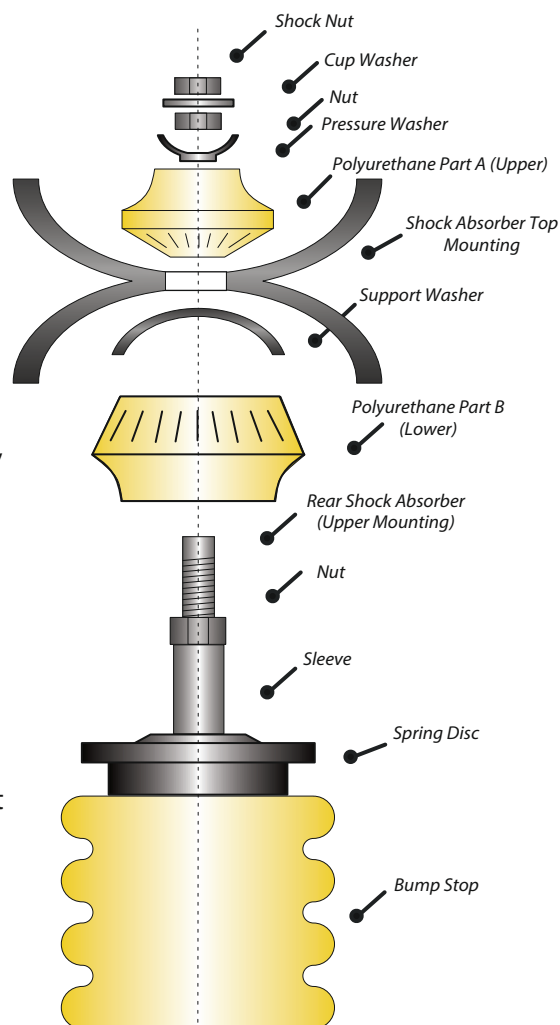

Figure 1
7. Fit the Lower Polyurethane Bush B and original washer onto the strut with the larger part of the bush facing upwards into the turret as shown in Fig.1.
9. Fit the Upper Polyurethane Bush A and original washers onto the strut inside the vehicle, with the larger part of the bush facing downwards into the turret as shown in Fig.1.